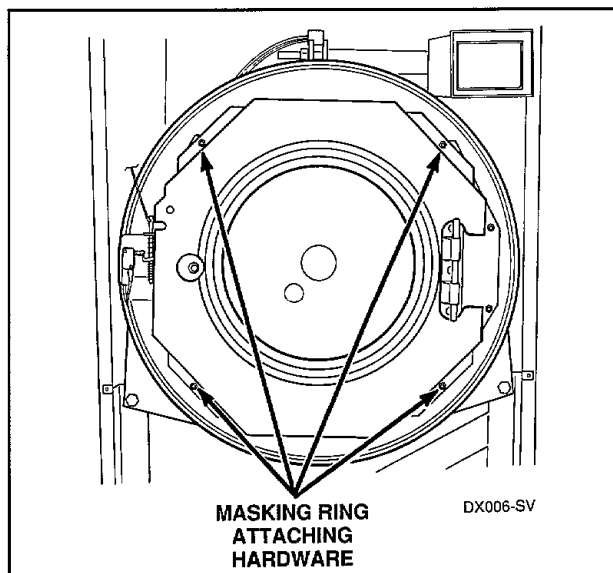

Figure 7
- Remove four nuts holding masking ring to front of outer tub and remove ring, *Figure 7*.